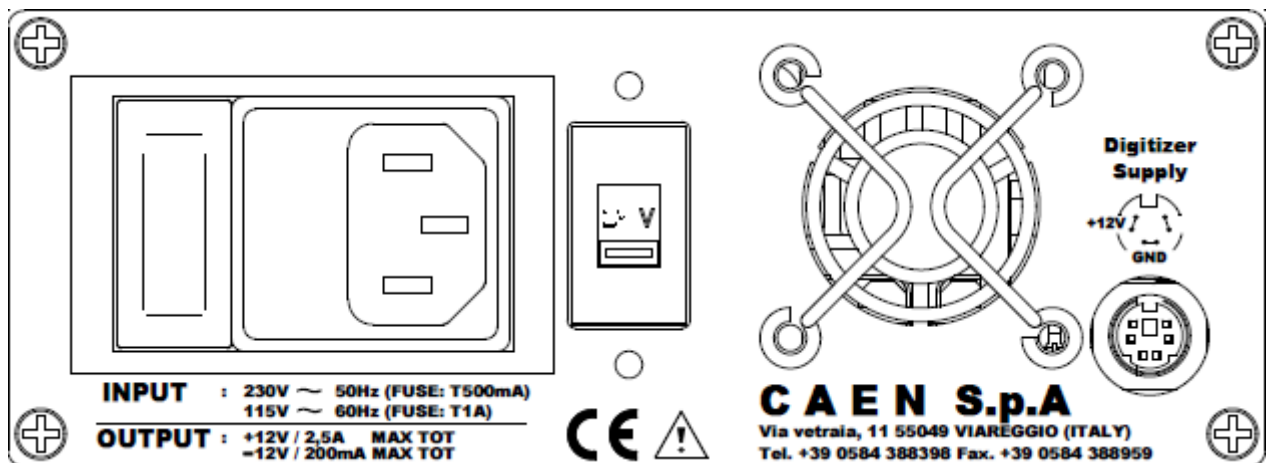

Fig. 3 – DT5423 back panel
- Fig. 3 – DT5423 back panel 7